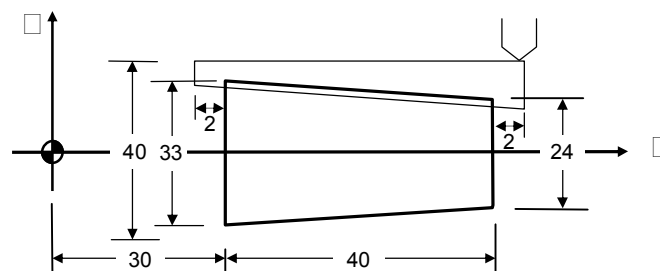

Fig.3-22 Tapered thread cutting
- X, Y End point C in absolute coordinates (Fig. 3-22)
In Fig. 3-22, the cutting paths 1 and 4 are fast positioned by G00. The cutting along the paths 2 and 3 is executed at the feed-rate F. Whenever the start button (C-CST) is pressed in a block, the tool moves along the paths 1-2-3-4 to execute a cutting cycle.